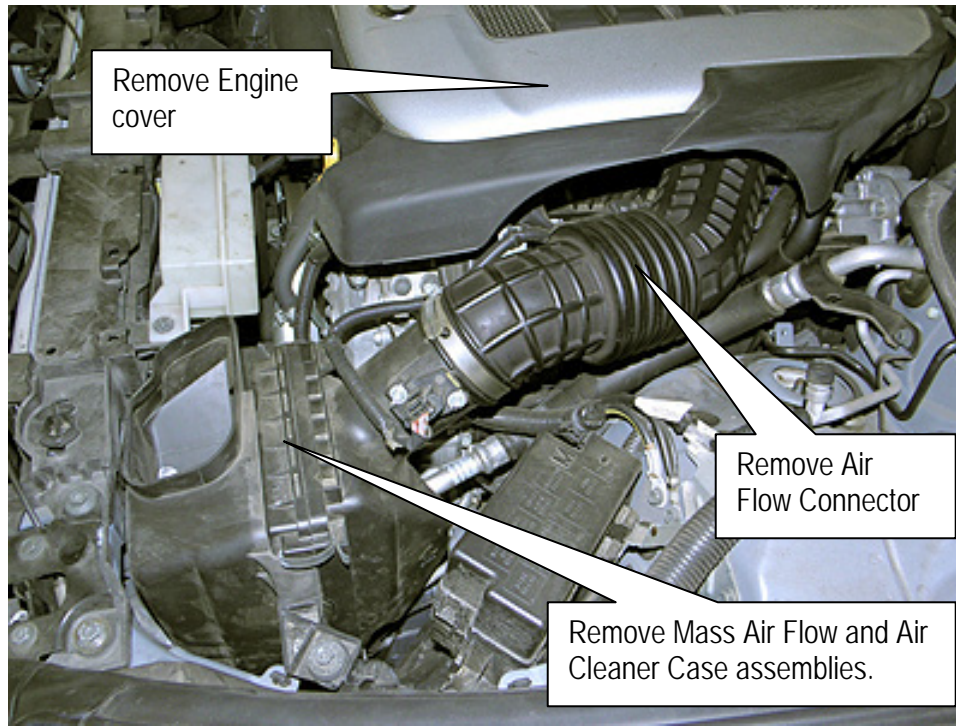

Figure 1
- Figure 1 shown with Fresh Air Duct already removed.